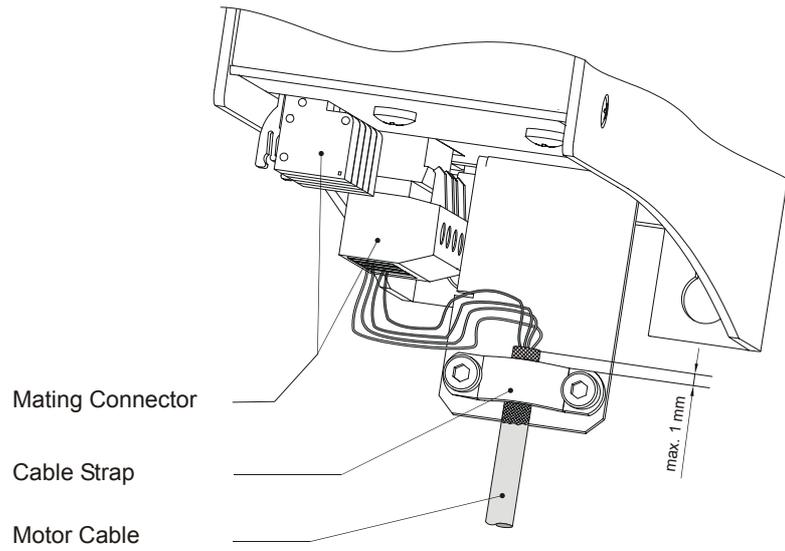

Fig.3: EMC-conformous shielding for terminal screws
- Shield and cable strap must be connected with low impedance to earthed surfaces. Earthing must be done in a way that keeps the unshielded part of the signal lines as short as possible (see Fig. 3).
- Connect the motor leads according to Fig. 3.